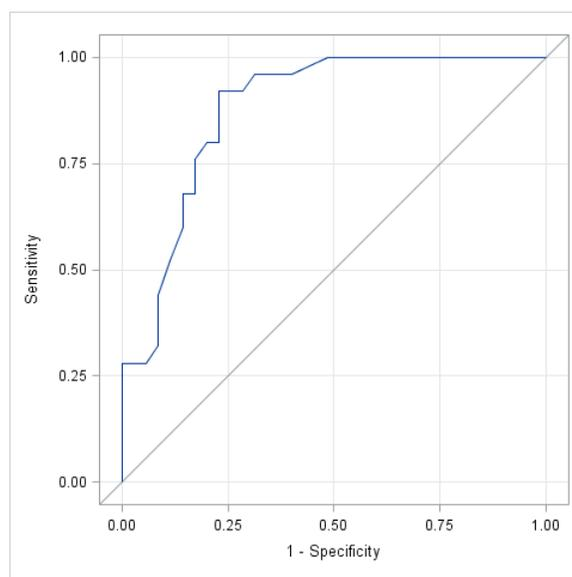

Figure 4. The ROC curve (Treatment|Age) produced by the new GTL template (Example 4)
The template created by PROC TEMPLATE is saved in the path SASUSER.TEMPLAT while the default template (as named Stat.Logistic.Graphics.ROC) is saved in the path SASHELP.TMPLMST. The first path has higher priority and SAS will search the first path first and find the modified Stat.Logistic.Graphics.ROC template to create the ROC charts. Thus, ROC charts without graph titles and tooltips are created in this example (Figure 4). To retrieve the default SAS setting, simply delete the template in SASUSER.TEMPLAT:
**Figure 4. The ROC plot (Treatment|Age) and the ROC comparison plot produced by Proc Logistic with modified GTL and ODS style templates. Note: Both templates affect the first graph and only the ODS style template affects the second graph (Example 5)**